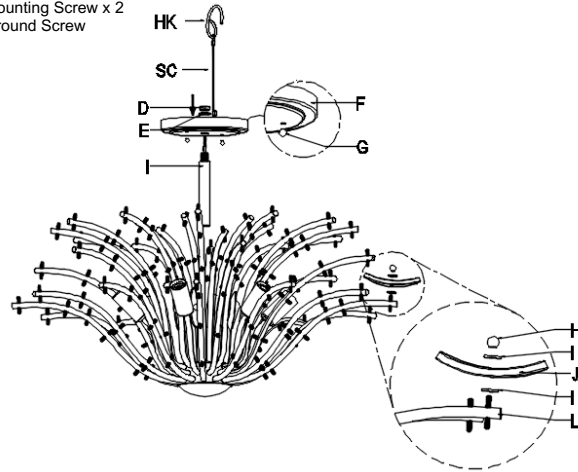

FIG. 2
ASSEMBLING THE FIXTURE (Fig.1 & Fig.2)
8. Tuck wire connections neatly into junction box (JB). Fig.2.
9. Raise the canopy (F) over the screw (C) and secure with decorative ball nuts (G).